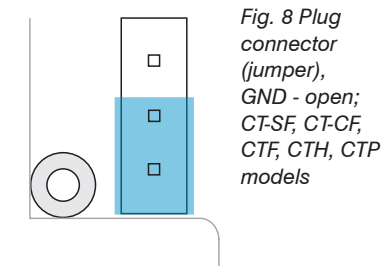
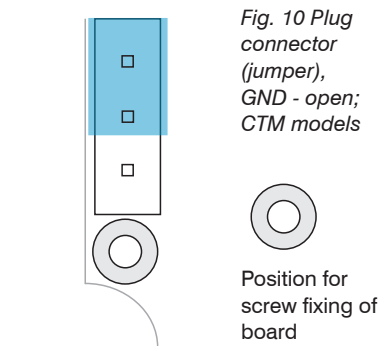

Fig. 8 Plug connector (jumper), GND - open; CT-SF, CT-CF, CTF, CTH, CTP models
Fig. 10 Plug connector (jumper), GND - open; CTM models
- ➔ Please put the jumper in the corresponding position, see Fig. 8, see Fig. 10.